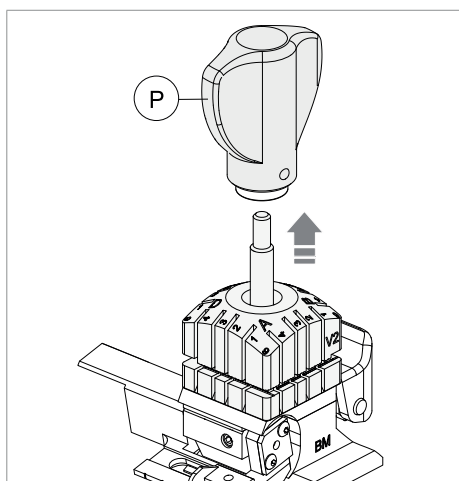

Fig. 137
- 3) Unscrew the knob (P) and remove it (Fig. 137).